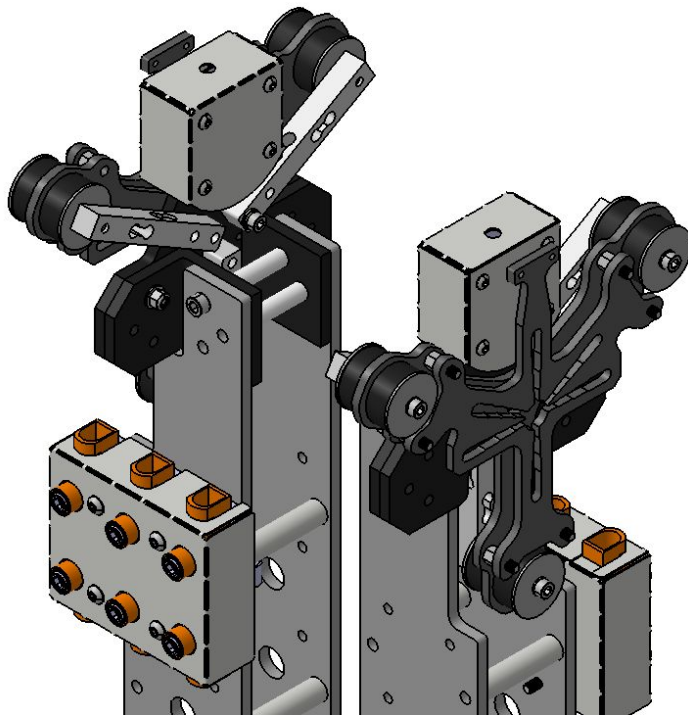

Fig. 4.39: Coaxial back-to-back without the special mount. Above 170mm range, or 250mm with the railing system.
- Insert the back-to-back coaxial special mount (#JRCQ) into the load measurement unit (#XBKH): in between the lower plate and the upper plate. Use the support edges indicated in Fig. 4.39 to align and keep sliding the mount in.